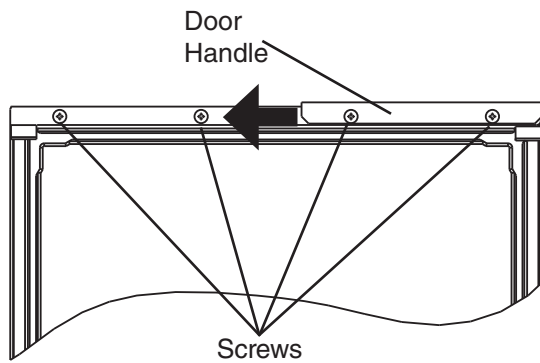

**Fig. 4**
- 4) Remove hinge (B) from the right side of the unit and the 2 filler screws from the left side. Attach the 2 filler screws to the right side and attach hinge (B) to the left side. See Fig. 4.